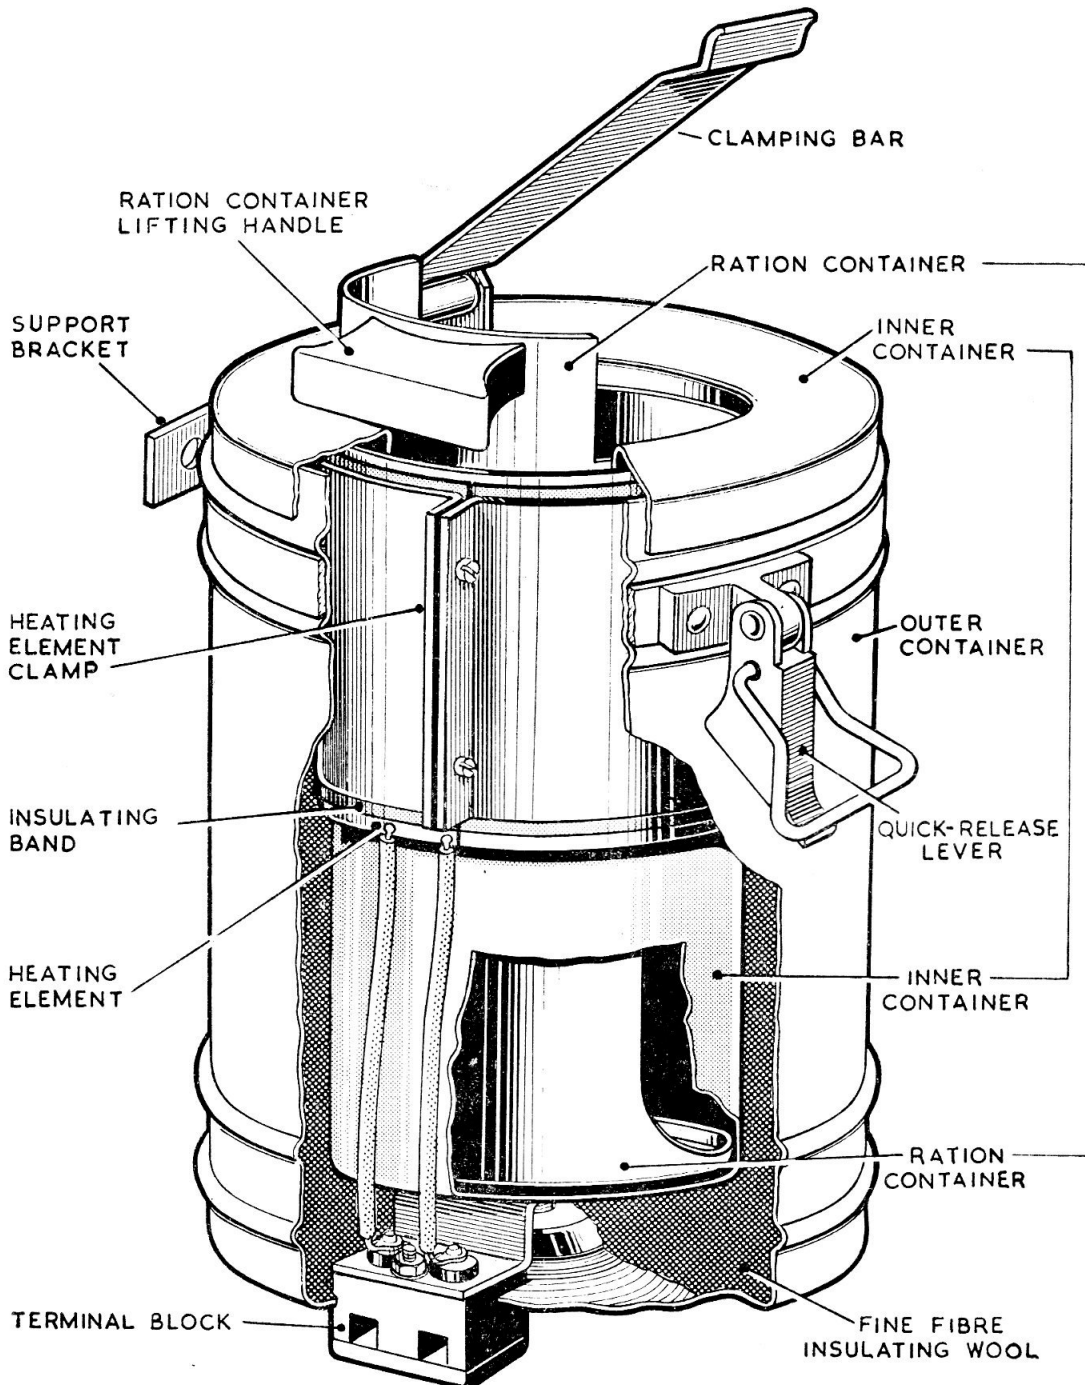

Fig. 1. Part cut away view of the flight ration heater
Part cut away view of the flight ration heater	Fig. 1
2. The construction of the heater is illustrated in fig. 1. The ration container detachable to facilitate loading and unloading of the tins of rations; the inner container is detachable for cleaning purposes. The clamping bar, held by a quick release lever, prevents the tins falling out of the heater, and the supporting bracket surrounding the outer container is for securing the unit to a convenient position inside the aircraft.